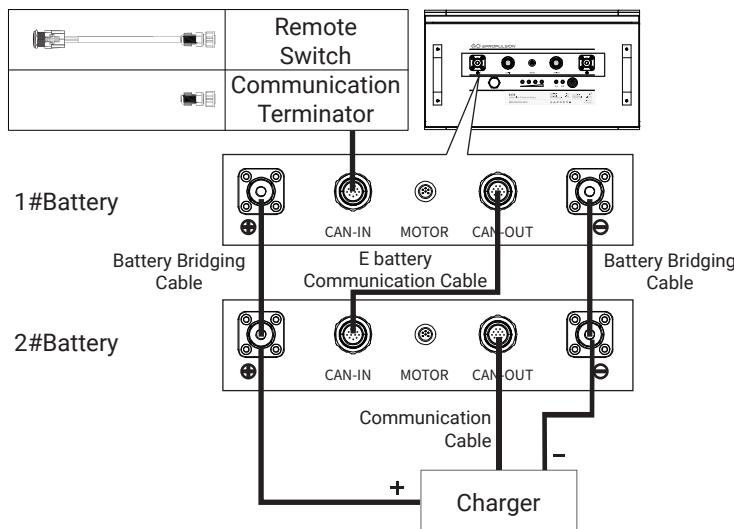

Figure 2-7
- ⚠ When charging parallel batteries, the charger should connect to a battery whose CAN-OUT port is not connect with the E battery communication cable (refer to the 2# battery in figure 2-7).**